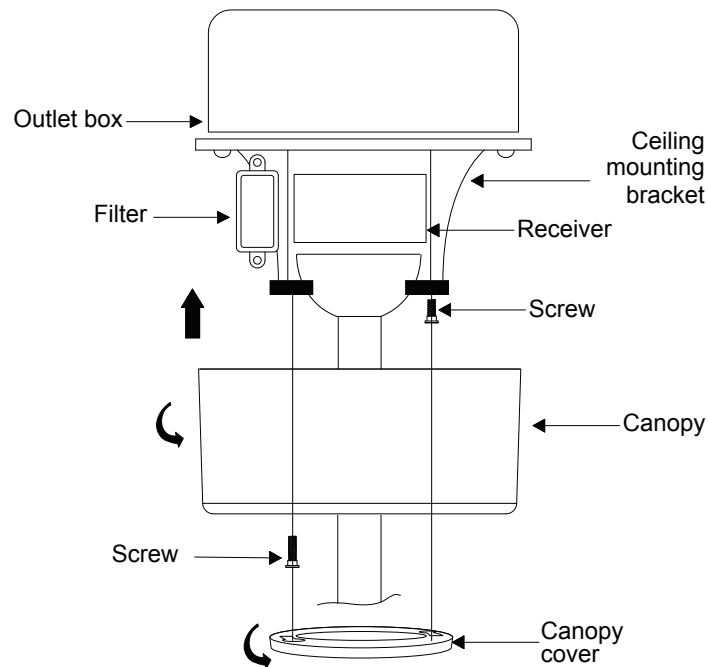

Fig. 15
Step 2. Slide the canopy up to the mounting bracket and place one of the key hole slots over the mounting screw on the mounting bracket. Rotate the canopy until the screw head locks in place at the narrow section of the key hole. (Fig.15)